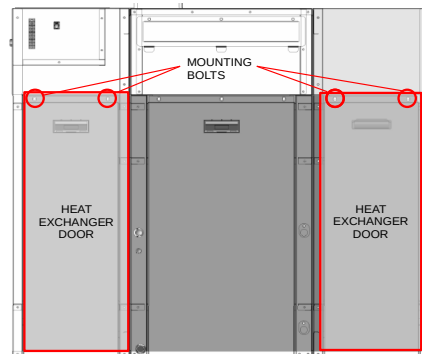
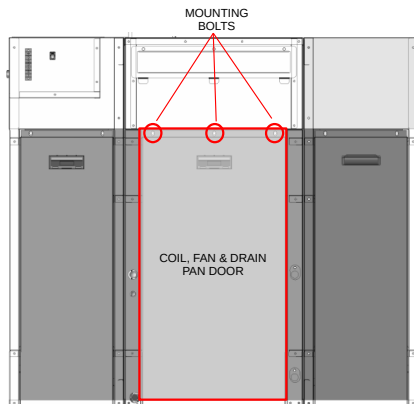

Figure 6 – Heat Exchanger Doors
Figure 7 – Drain pan access doors
2. Remove the doors from all three sections. Use the provided Allen key to unscrew the seven bolts holding the doors as per Figure 6 and Figure 7.